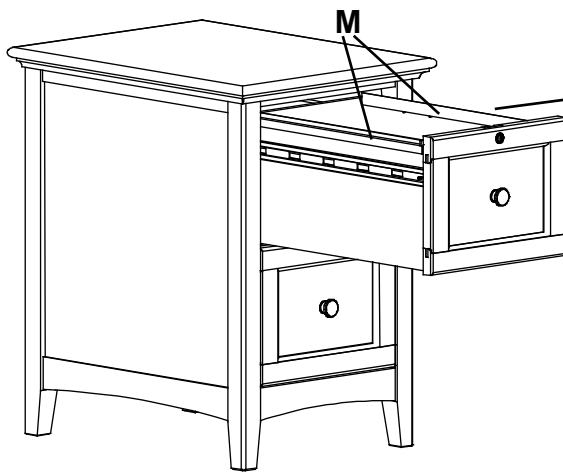
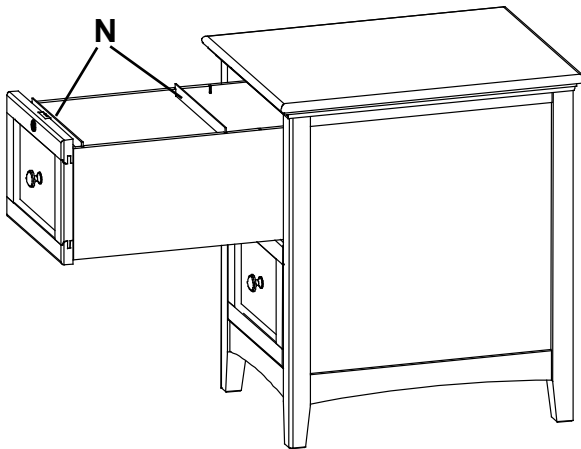

Fig. 3
Fig. 3b
3. Store your letter-sized hanging folders either parallel or perpendicular to the front of the drawer. Legal-sized folders must hang perpendicularly. To hang your files perpendicularly, remove the Plastic File Rails (M). See Figures 3 and 3a. There are slots on the sides of the drawers. Insert an Aluminum File Rail (N) into the slots nearest to the Drawer Face (D or E). Insert another Aluminum File Rail (N) into the second set of notches for letter-sized folders or the third set of notches to hang legal-sized folders. See Figures 3b and 3c.